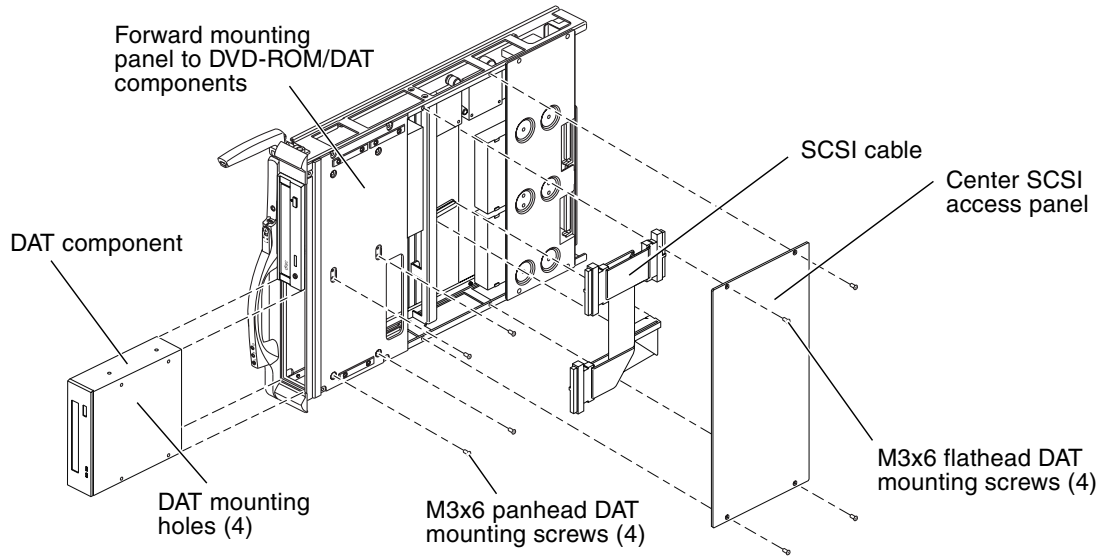

FIGURE 7-5 SC Peripheral Board DAT Removal and Access Panel—Exploded
4. At the center SCSI access panel, remove the four (4) M3x6 flathead screws and remove the access panel.
6. To access the internal DAT component of the SC peripheral board, remove the four (4) M3x6 panhead screws from the forward mounting panel, as shown in FIGURE 7-5.